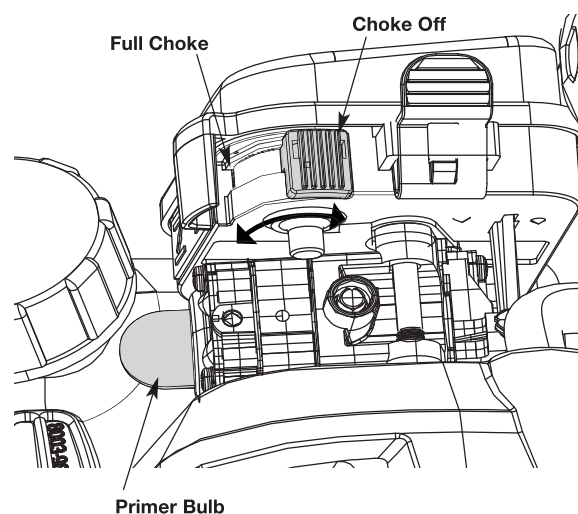

Fig. 10
3. Slowly press and release the primer bulb 10 times (Fig. 10).
4. Move the choke lever to the Full Choke position (Fig. 10).